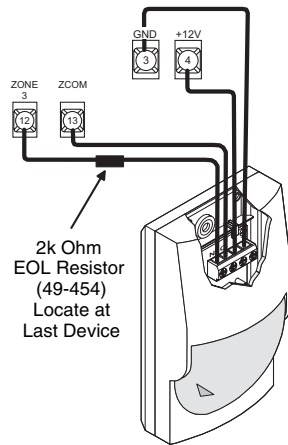

Figure 9. Connecting a PIR Motion Detector
Figure 9 shows the typical wiring for Optex model RX-040 (PI) PIR motion detectors. The minimum available panel voltage for hardwired PIR motion detectors is 8.5 VDC (9.1 VDC for UL Listed systems).